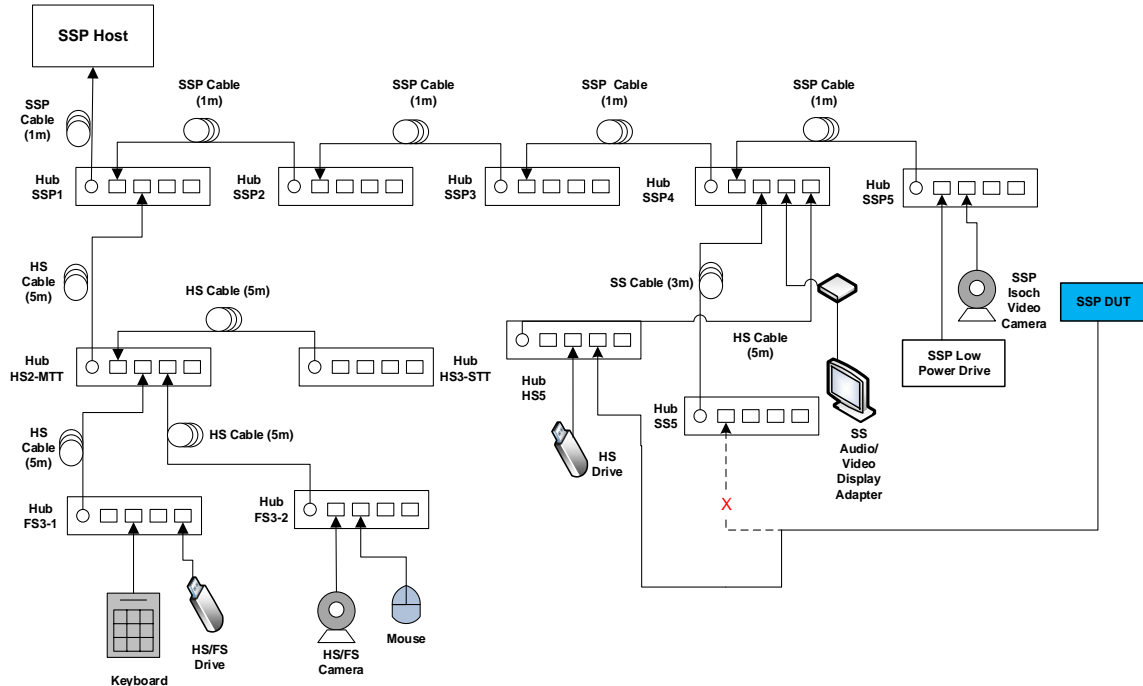

Figure 2-5: Topology Change 2
- While operating the devices, attach the Device Under Test to port 3 on Hub HS5 as shown below in Figure 2-5 and Figure 2-6.